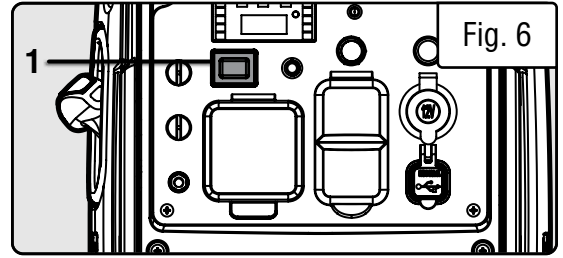

Fig. 6
6. Turn the ECO-MODE switch to “OFF” during starting (Fig. 6 - 1).
This generator is equipped with an Eco-Mode Idle Control Switch (Fig. 6 - 1). Engaging the switch automatically adjusts the engine to match the load. When the electrical load changes, the generator engine will automatically speed up and slow down as needed. This reduces fuel consumption and noise levels.